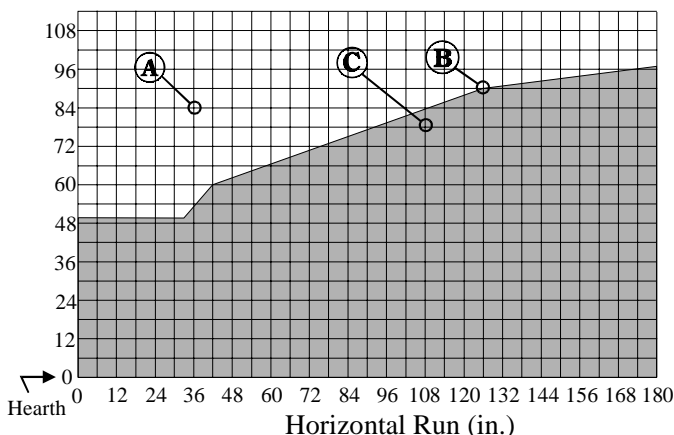

Figure 18a. C42-DV Rear Vent Venting Graph
- your vent run must fall within the limits set by Figure 18a
Measure the vertical height from the fireplace hearth to the centre of the termination and the horizontal run from the fireplace flue collar to the wall flange of the termination. Plot on the Venting Graph (Fig. 18a) with an 'X'.
Venting runs *must* fall within the limits set by the venting graph (see Figure 18a).